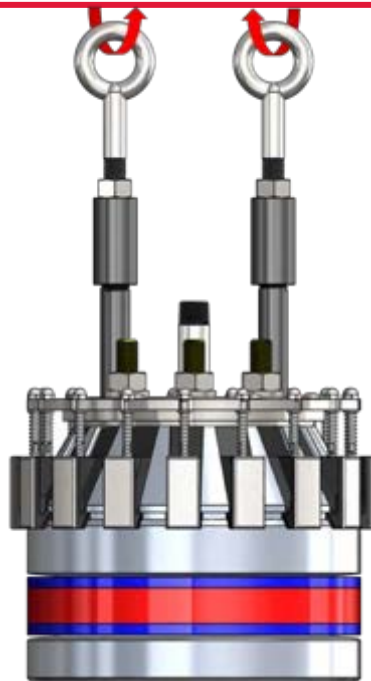

Figure 25: Properly Installed Lifting Eyes for Vertical Lift
- For vertical lifting, remove the **Lifting Device Bolts (27)** securing the **Lifting Standoffs (26)** to the **Telescoping Lifting Attachment (25)**.
- Hold the **Vertical Lifting Eyebolt (30)** in the correct orientation, snug the **Eyebolt Nut (31)** against the top of the **Lifting Standoffs (26)**, and then turn the nut an additional $\frac{1}{2}$ turn. Repeat for the other **Eyebolt (30)** and its nut. See Figure 25 for proper installation.